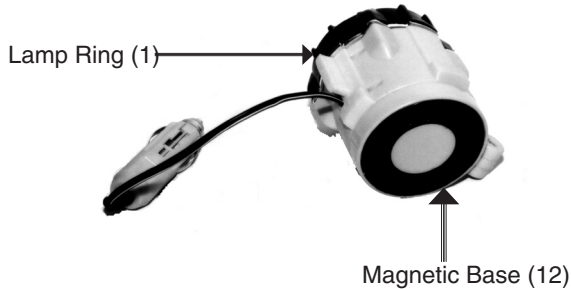

Figure 2
1. Your Mini-LED Spotlight has a Magnetic Base (12) which can be mounted to any metal surface-see Figure 2.
2. The Spotlight cord extends out to 6'-9" from the Car Adapter. Gently pull on the Car Adapter with Cord (14) to extend the cord. To draw the cord back into the housing, turn the Lamp Ring (1) counterclockwise-see Figure 2.